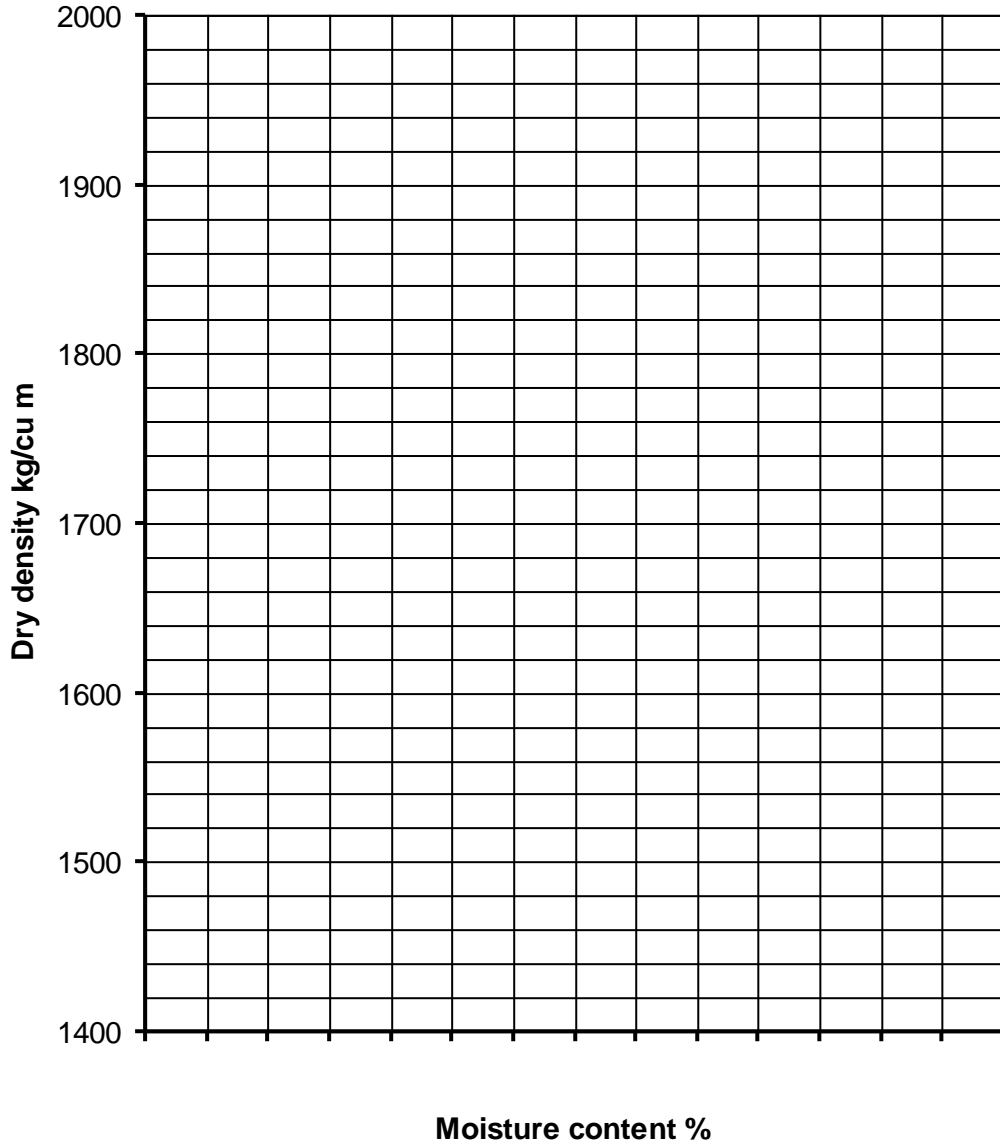

Figure Q2
Detach Figures Q2, Q3-1 and/or Q3-2 and insert into your Answer Booklet using Treasury Tags.
- (i) Using the data in the table above, carry out any calculations necessary and then plot the results of this compaction test on Figure Q2. From the plotted data on Figure Q2 determine appropriate compaction characteristics for this soil. Ensure that you describe this using the simple terms routinely used in soil mechanics. (12 marks)